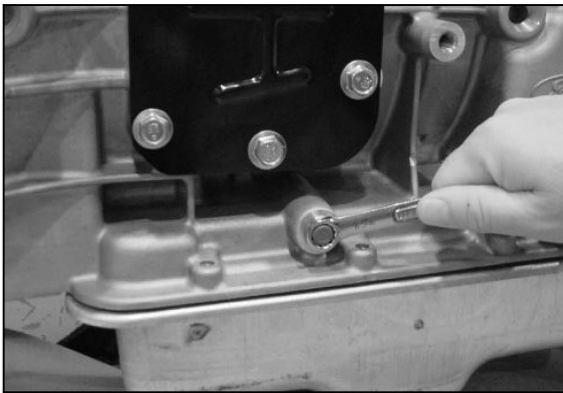
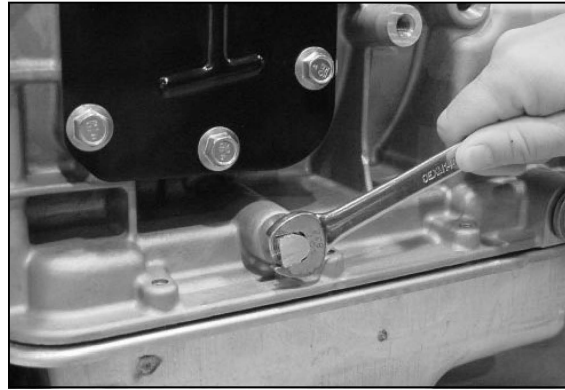

Figure 8
Figure 9
9. Remove the pipe plug from the transmission pressure port (**Figure 8**) and install the 90° male elbow (379698) in the opening. Position the fitting (**Figure 9**) at a 10 o'clock position as you look at the fitting.